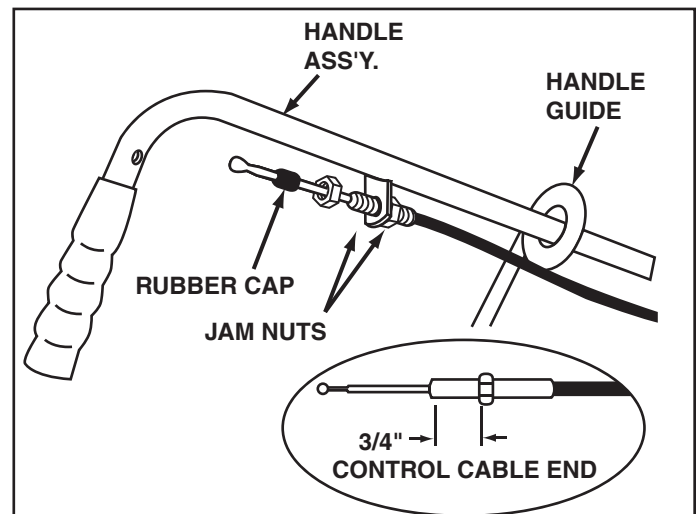
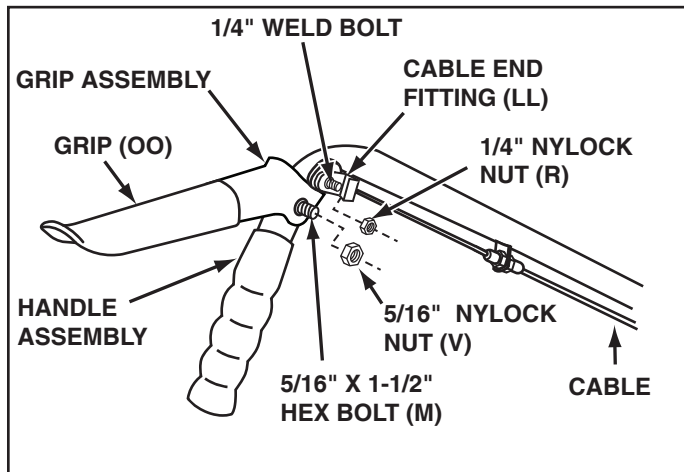

FIGURE 23
FIGURE 24
STEP 22: (SEE FIGURE 23)
STEP 23: (SEE FIGURE 24)
- Assemble grip (OO) to grip assembly.
- Assemble grip assembly to handle assembly using a 5/16" x 1-1/2" hex bolt (M) and 5/16" nylock nut (V).
- Assemble the ball end of the cable wire (shown in figure 23) up through the hole in a cable end fitting (LL) and then slide it back inside the curled edge of the fitting.
- Assemble cable end fitting (LL) over 1/4" weld bolt on grip assembly and secure with one 1/4" nylock nut (R) and then back nut off 1/2 turn.